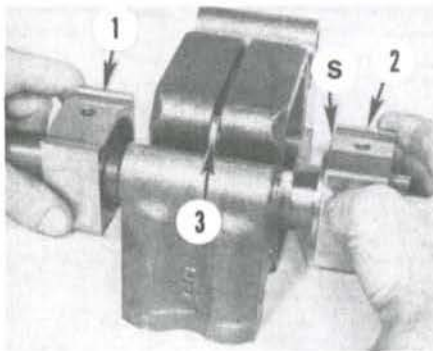

Fig. 234—Be sure that cam block (2) with shoulder (S) is over widest (front) cam lobe and shoulder faces inward. Cam follower (3) goes towards bottom of pump.
piston yokes face away from each other. Be sure cam block (2—Fig. 234) with shoulder (S) is over widest (front) cam lobe and shoulder faces inward as shown. Be sure cam follower (3) is towards bottom of pump. Notches (N—Fig. 235) in end of valve sleeve must be aligned horizontally in valve bore and pins (P) in spacer (2) must be vertical to pump body. Lockplate (1) fits into notches of sleeve and spacer. Tighten pump body stud nuts to 41-47 N·m (30-35 ft.-lbs.) torque. Be sure camshaft rotates freely.